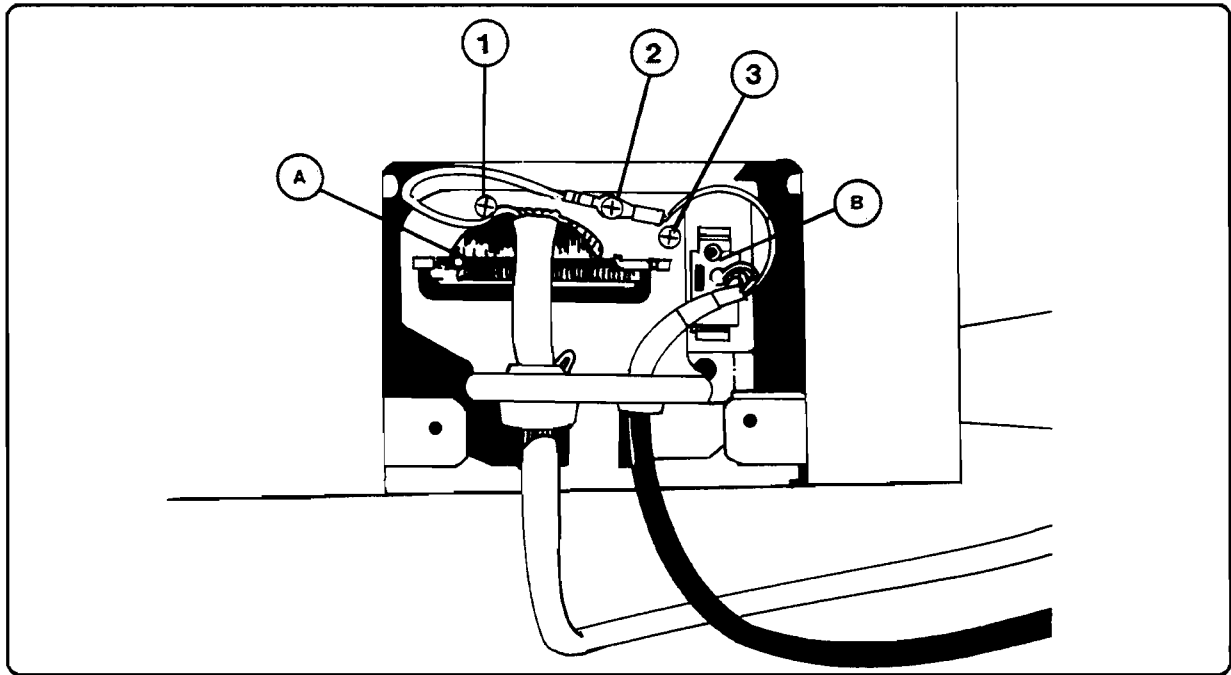

Figure 6-19. Stacker Cables and Plate
6. Unplug the stacker cable connectors (A and B in Figure 6-19).
7. Remove the screw attaching the ground wire to the connector base (screw #2 in Figure 6-19).
8. Remove the two screws holding the connector plate (#1 and 3 in Figure 6-19).